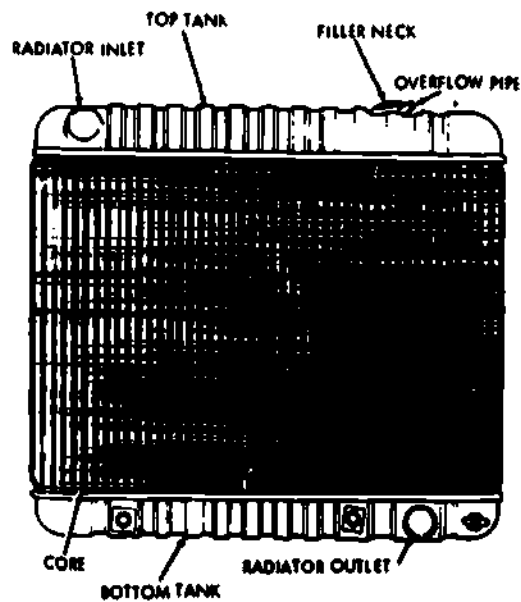

Fig 1-90. Components of the radiator.
a. **Radiator.** A rear view of a typical radiator is shown in figure 1-90. Coolant is placed into the system through the filler neck. The coolant goes into the top tank where it slowly filters through the radiator core (a series of thin tubes), where it is cooled by air passing through, to the bottom tank. The coolant is forced from the bottom tank and through the engine. It is then returned through the inlet (top tank). This cycle is repeated over and over.